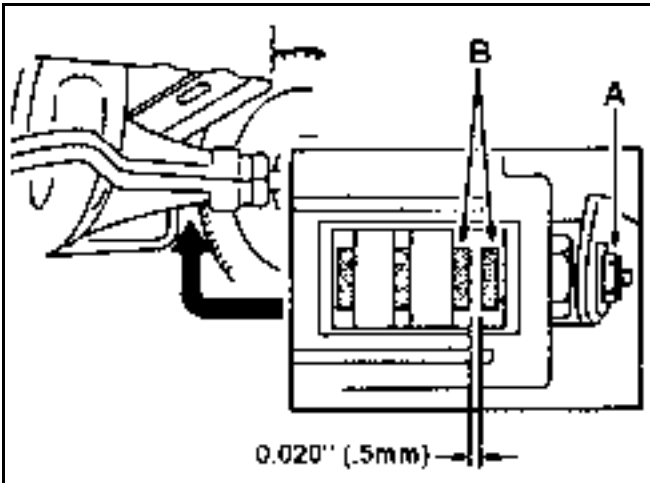

Figure 104 L11051
6. Insert a 0.020" (.5mm) feeler gauge between the outer discs, if the clearance is not correct make the necessary change with the brake adjusting nut (Figure 104).